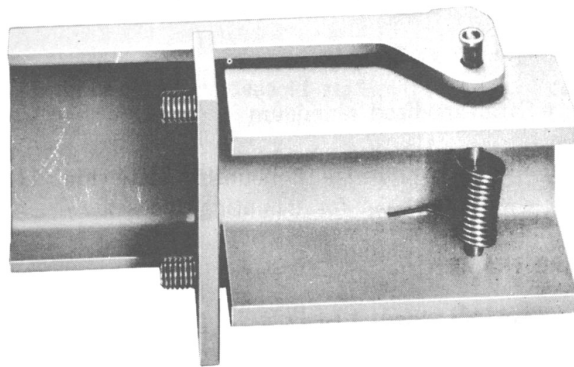
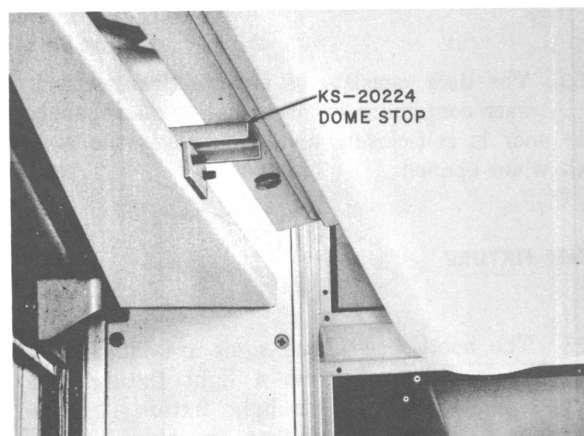

Fig. 3—KS-20224 Dome Stop
Fig. 4—KS-20224 Dome Stop Installed
2.09 The KS-20224 dome stop (Fig. 3), a spring loaded device, is designed to mount along the door track (Fig. 4) to prevent the dome from falling when the fasteners are released.